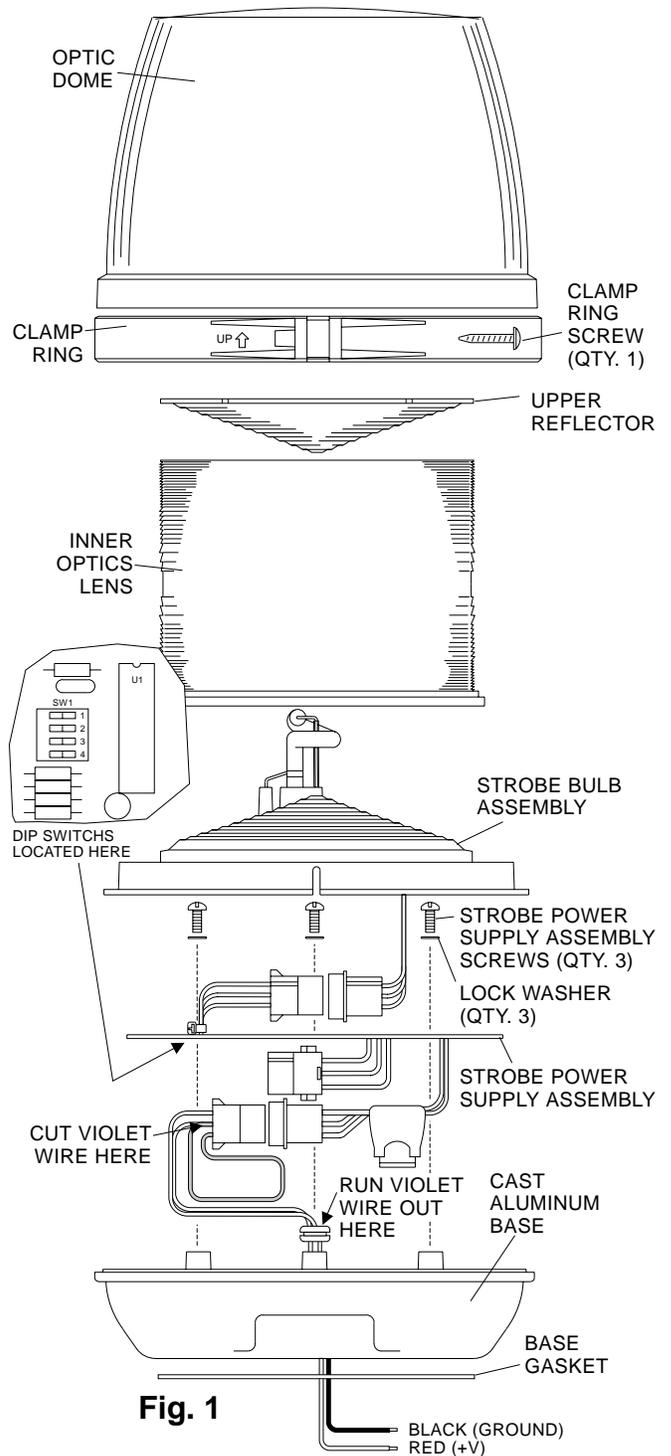

Fig. 1
1. Locate the clamp ring securing the optic dome to the base. Remove the clamp ring screw, clamp ring and optic dome from the base. (Fig. 1)
6. Locate the dip switch bank on the component side of the circuit board. The dip switch bank is comprised of (4), "rocker style" switches. Using a pencil or similar tool, move all of these switches into their "OFF" position.
2. Locate the "looped" violet wire. Cut this wire where it enters the connector at pin 2. (Fig. 1)